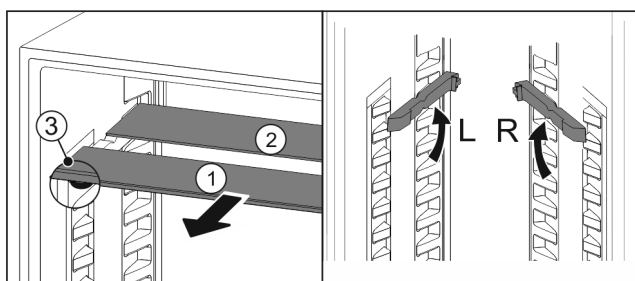

Fig. 195
- Pull the glass panels out Fig. 195 (1) from the front, one at a time.
- The glass panel Fig. 195 (1) and trim strip are at the front.
- The stops Fig. 195 (3) point down.